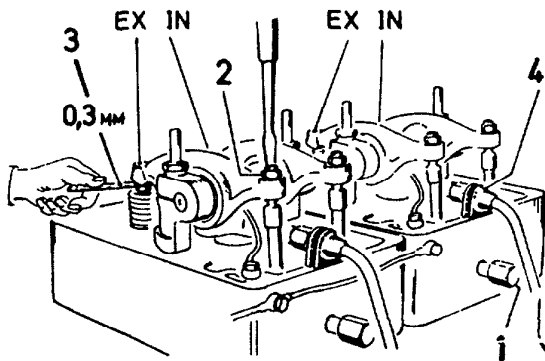

Fig 63. 2G—Viewed from rear.
1. *Type 2G*, fig 63. Unscrew both starting cartridges (1).